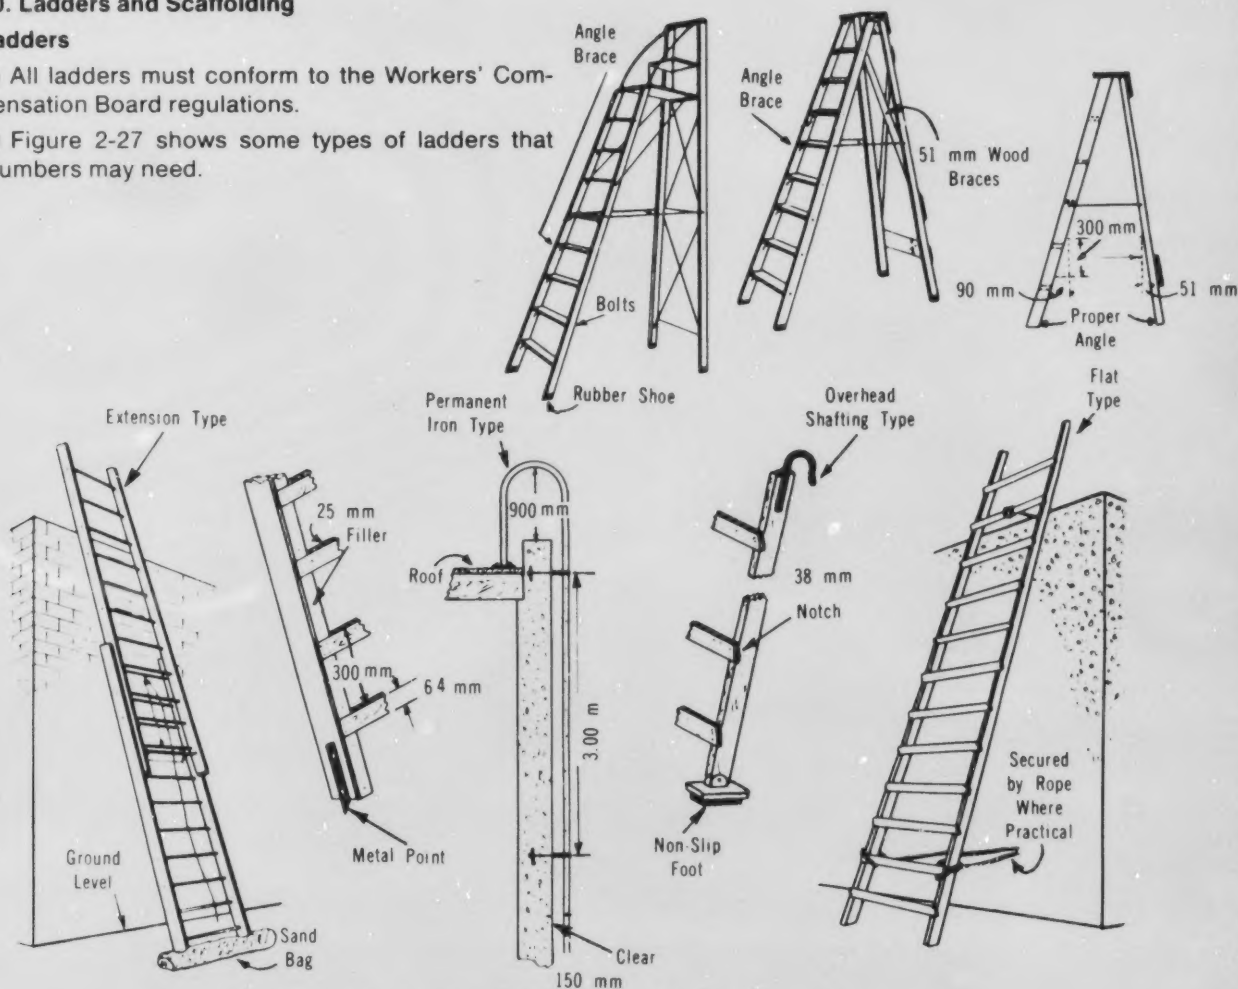

Figure 2-27. Types of Ladders
b) Figure 2-27 shows some types of ladders that plumbers may need.